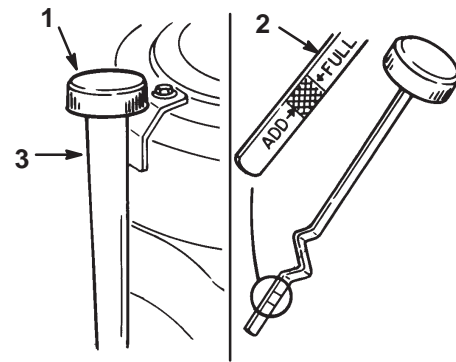

Figure 29
2. Clean around the oil dipstick (Fig. 29) so dirt cannot fall into the filler hole and damage the engine.
3. Unscrew the oil dipstick and wipe the metal end clean (Fig. 29).
4. Slide the oil dipstick fully into the filler tube, do not thread onto tube (Fig. 29). Pull the dipstick out and look at the metal end. If oil level is low, slowly pour only enough oil into the filler tube to raise the level to the full mark.
7. Slowly pour approximately 80% of the specified oil into the filler cap (Fig. 29). Refer to Servicing the Engine Oil, page 27.